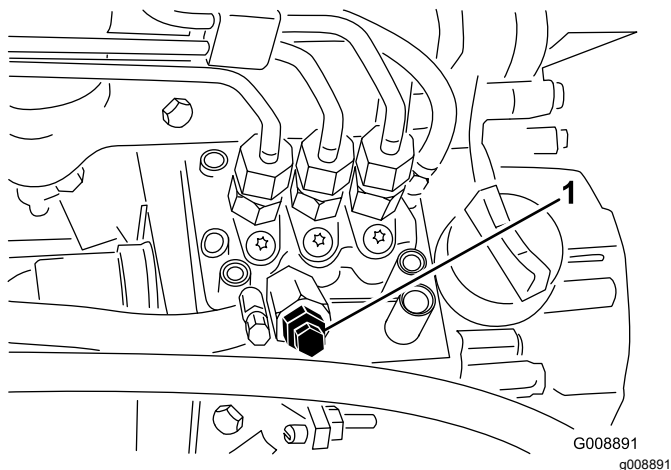

Figure 31
3. Open the air bleed screw on the fuel injection pump (Figure 31).